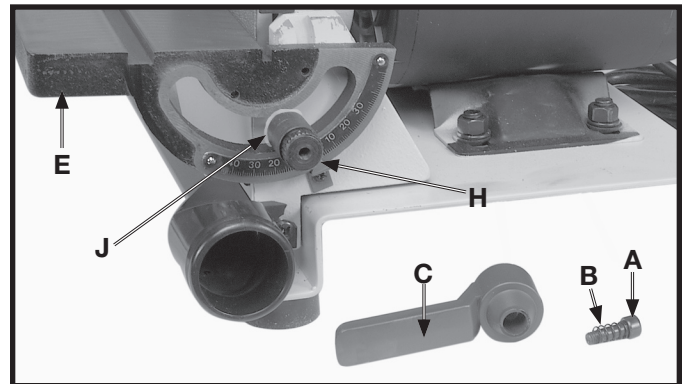

Fig. 15
4. Place a 10mm flat washer (J) Fig. 15, onto locking stud (H) Fig. 15, and thread stud into base casting to hold table assembly (E) in place as shown.
5. Place handle (C) Fig. 15, onto locking stud (H) and fasten with screw (A) and spring (B).